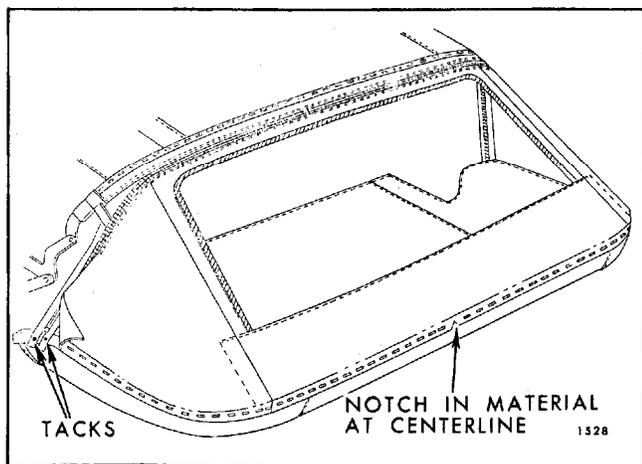

Fig. 6-53—Back Curtain Installation
**NOTE:** Notch in back curtain material at lower edge indicates centerline of back curtain assembly. (See Fig. 6-53). In addition, back curtain lower edge should extend approximately 1/2" below lower edge of trim sticks.
- Tack curtain to rear and rear quarter trim sticks (Fig. 6-53). On "A & Z" Body Styles